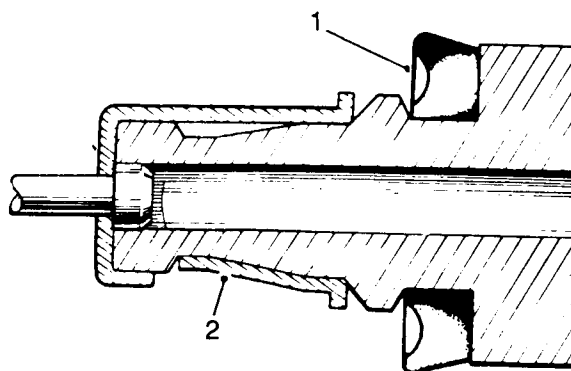

Fig H3.24
- (8) Refer to Fig H3.24. Fit the seal (1), large diameter last, to the piston.
- (9) Insert the piston into the spring retainer and engage the locking prong (2).
(10) Smear the piston with Castrol-Girling rubber grease and insert the assembly, valve end first, into the cylinder.
(12) Replace the master cylinder as detailed in Sub-sub-section H3.4, Chapter 2.